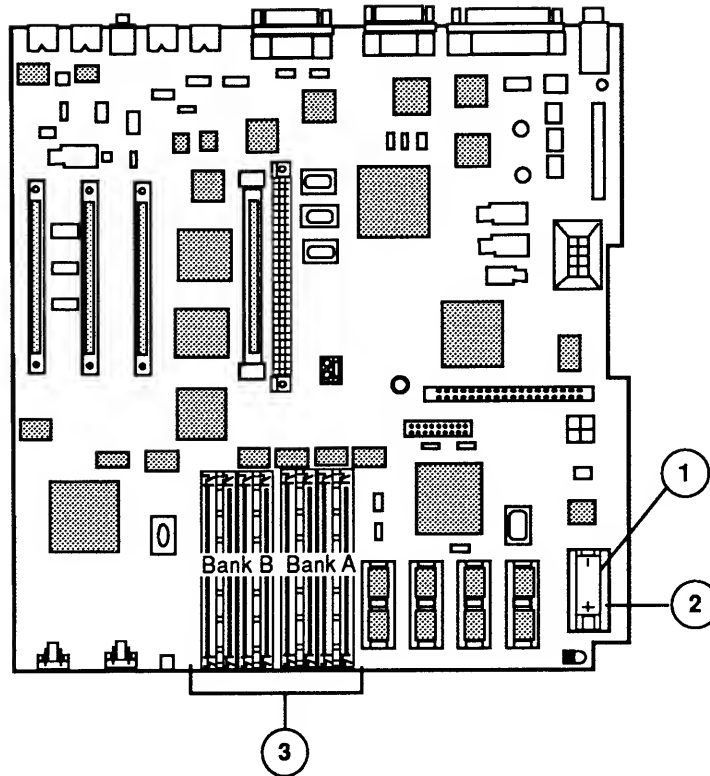

Figure 5 Macintosh IIci – Logic Board
□ MACINTOSH IIci – LOGIC BOARD (Figure 5)